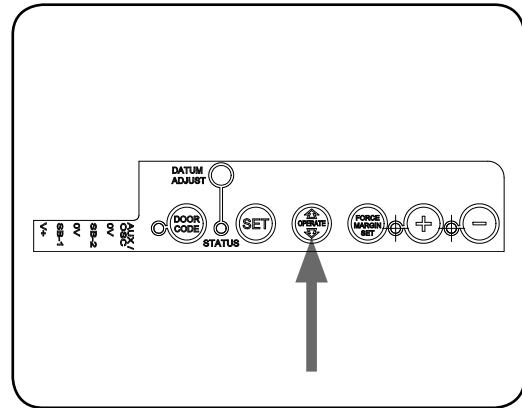

Fig. 25
- Press the OPERATE button to open the door (Fig. 25).
- Press the OPERATE button to close the door (Fig. 25).
- Press and hold the FORCE MARGIN SET button (Fig 25).